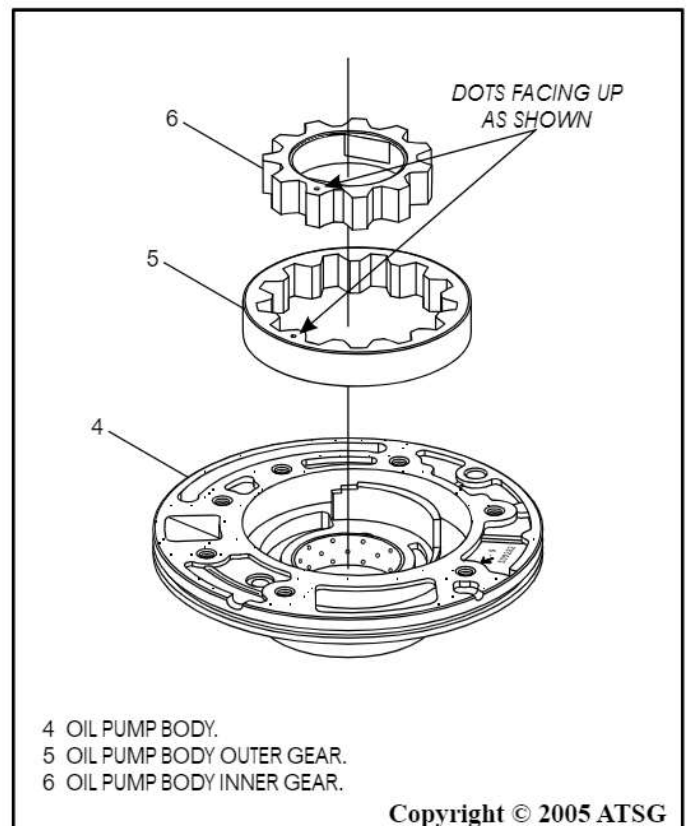

Figure 133
7. Turn the oil pump over and install pump gears into the pump pocket, as shown in Figure 133, with the "Dots" facing UP, as shown.